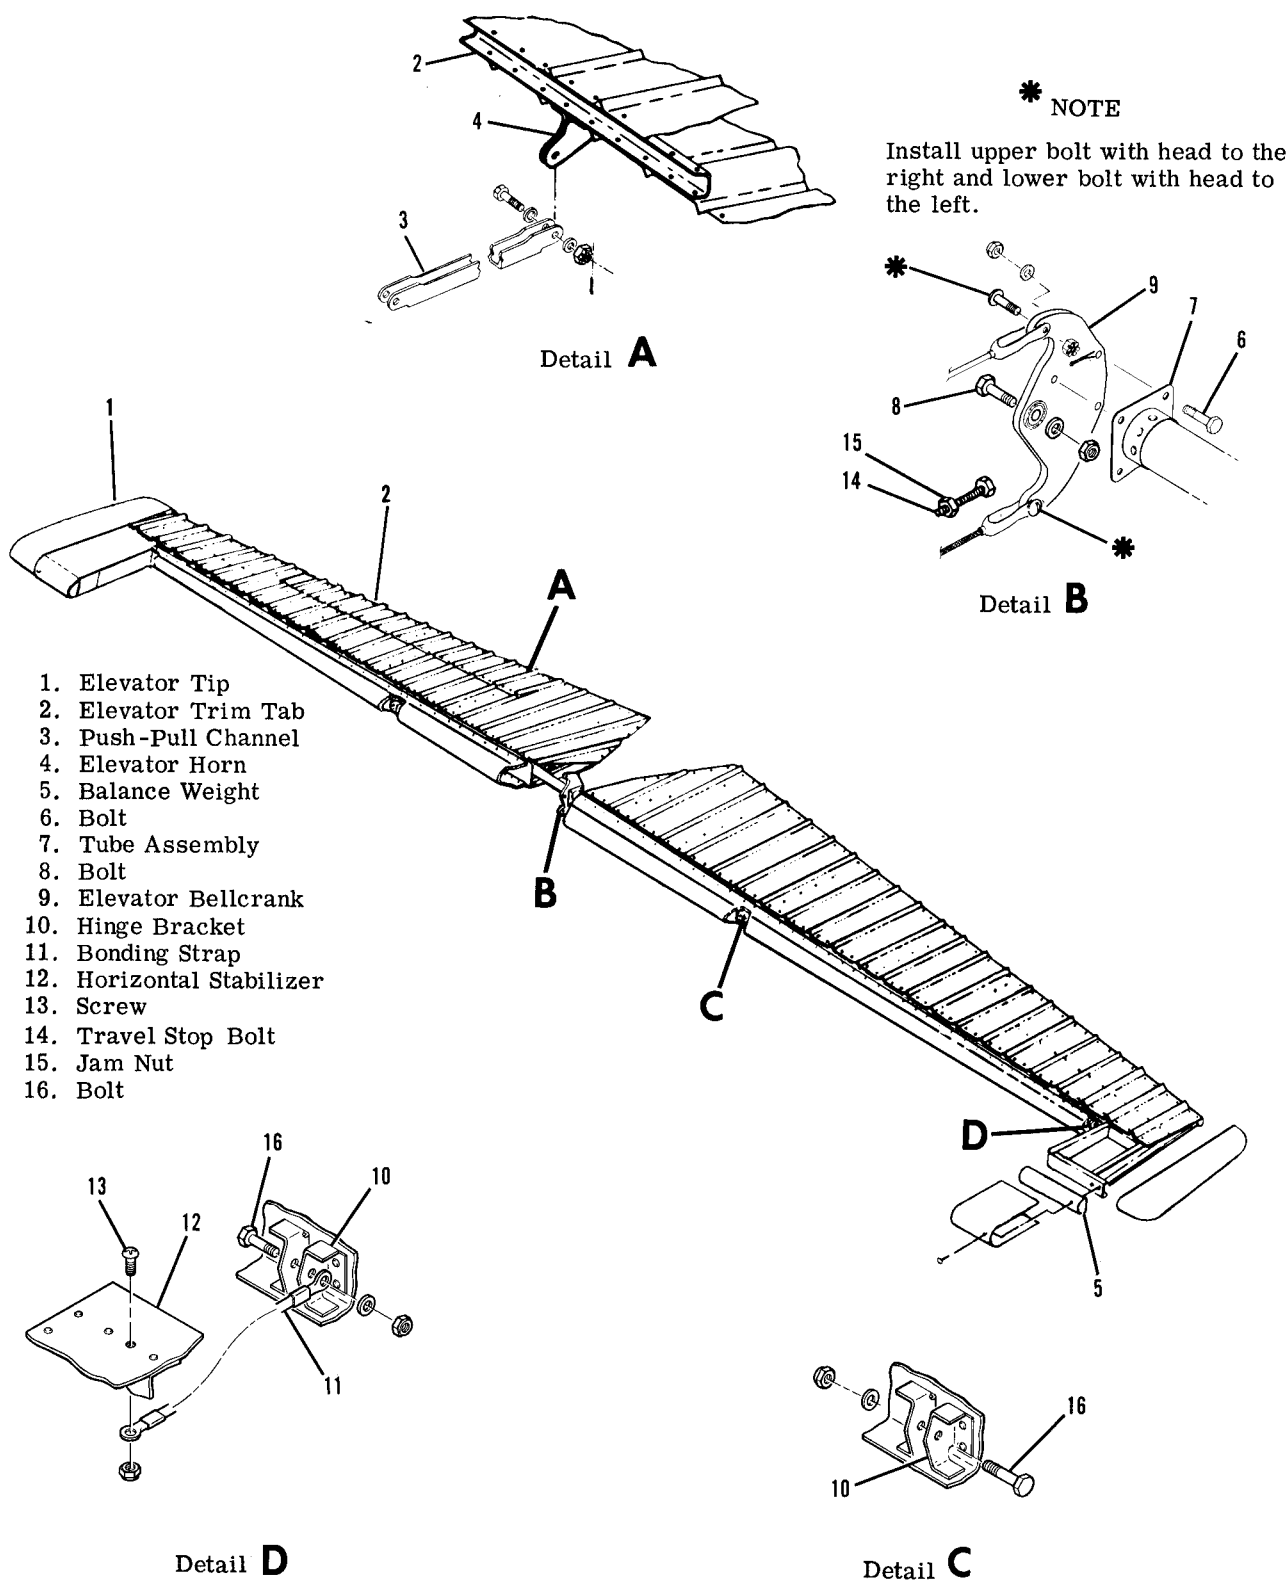

Figure 8-2. Elevator Installation
### 8-4. ELEVATORS. (Refer to figure 8-2.)
8-10. REAR. (Refer to figure 8-2.)
- e. Remove control column neutral rigging tool and adjust travel stop bolts (index 14, figure 8-2) to range of travel specified in figure 1-1.
- g. Safety turnbuckles (13) and travel stop bolts; check remainder of elevator control system for security and reinstall all items removed for access.
### 9-4. TRIM TAB. (Refer to figure 8-2.)